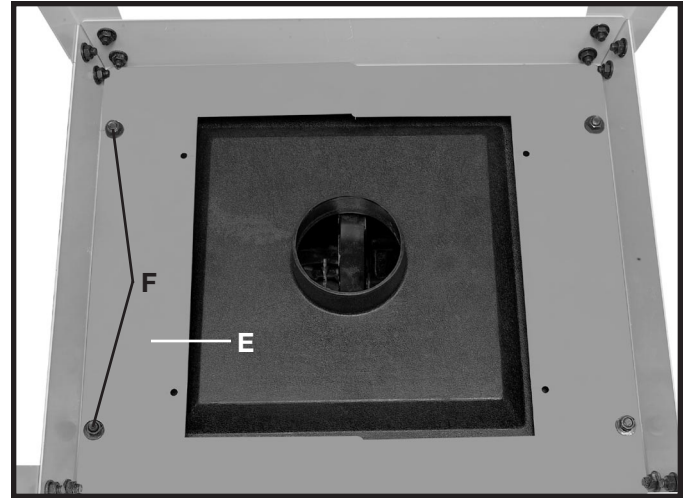

Fig. 5D
4. Place the other mounting plate over the dust collection hood. Align the two holes (F) Fig. 5D, in the mounting plate (E), with the two holes in the the stand and saw. Place a 3/8" flat washer onto a M8x1.25x16mm hex head screw. Insert the screw through the hole in the saw, stand, and the hole in the mounting plate. Place a 3/8" flat washer and thread a M8x1.25 hex nut onto the screw and tighten securely. Repeat this process for the remaining hole in the saw, stand and mounting plate.